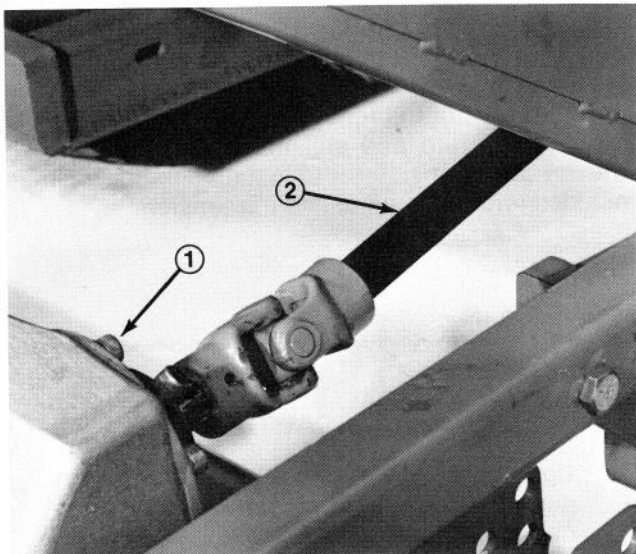
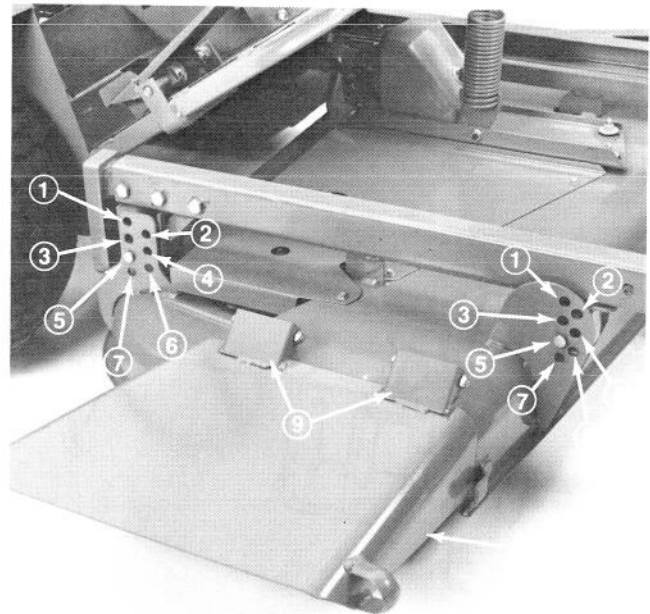

Figure 6
Figure 8
2. Stop engine, remove clevis pins and hairpins from forward and rear height-of-cut brackets (Fig. 8), install cutting unit under carrier frame, align gearcase input shaft with PTO shaft and install shaft (Fig. 6).
4. Install clevis pins through desired height-of-cut bracket holes and frame to secure cutting unit to frame (Fig. 8). Secure all four pins with hairpins.
The height-of-cut is adjustable from 1 to 4 inches (25 to 102 mm) in 1/2 inch (13 mm) increments by relocating four clevis pins in different hole locations in brackets at each corner of the cutting unit (Fig. 8).
The grass deflector (Fig. 8) is a safety device that diverts grass and other foreign objects being discharged downward. Without deflector mounted in place on the cutting unit and spring loaded hinges holding deflector in down position, the blades could hurl grass and foreign objects out the discharge opening with enough force to cause injury or property damage. If the grass deflector or spring hinges are worn, broken or damaged, repair or replace the affected part(s). Never operate cutting unit without deflector mounted on the cutting unit. Always be sure the deflector chute is in the lowest possible position.